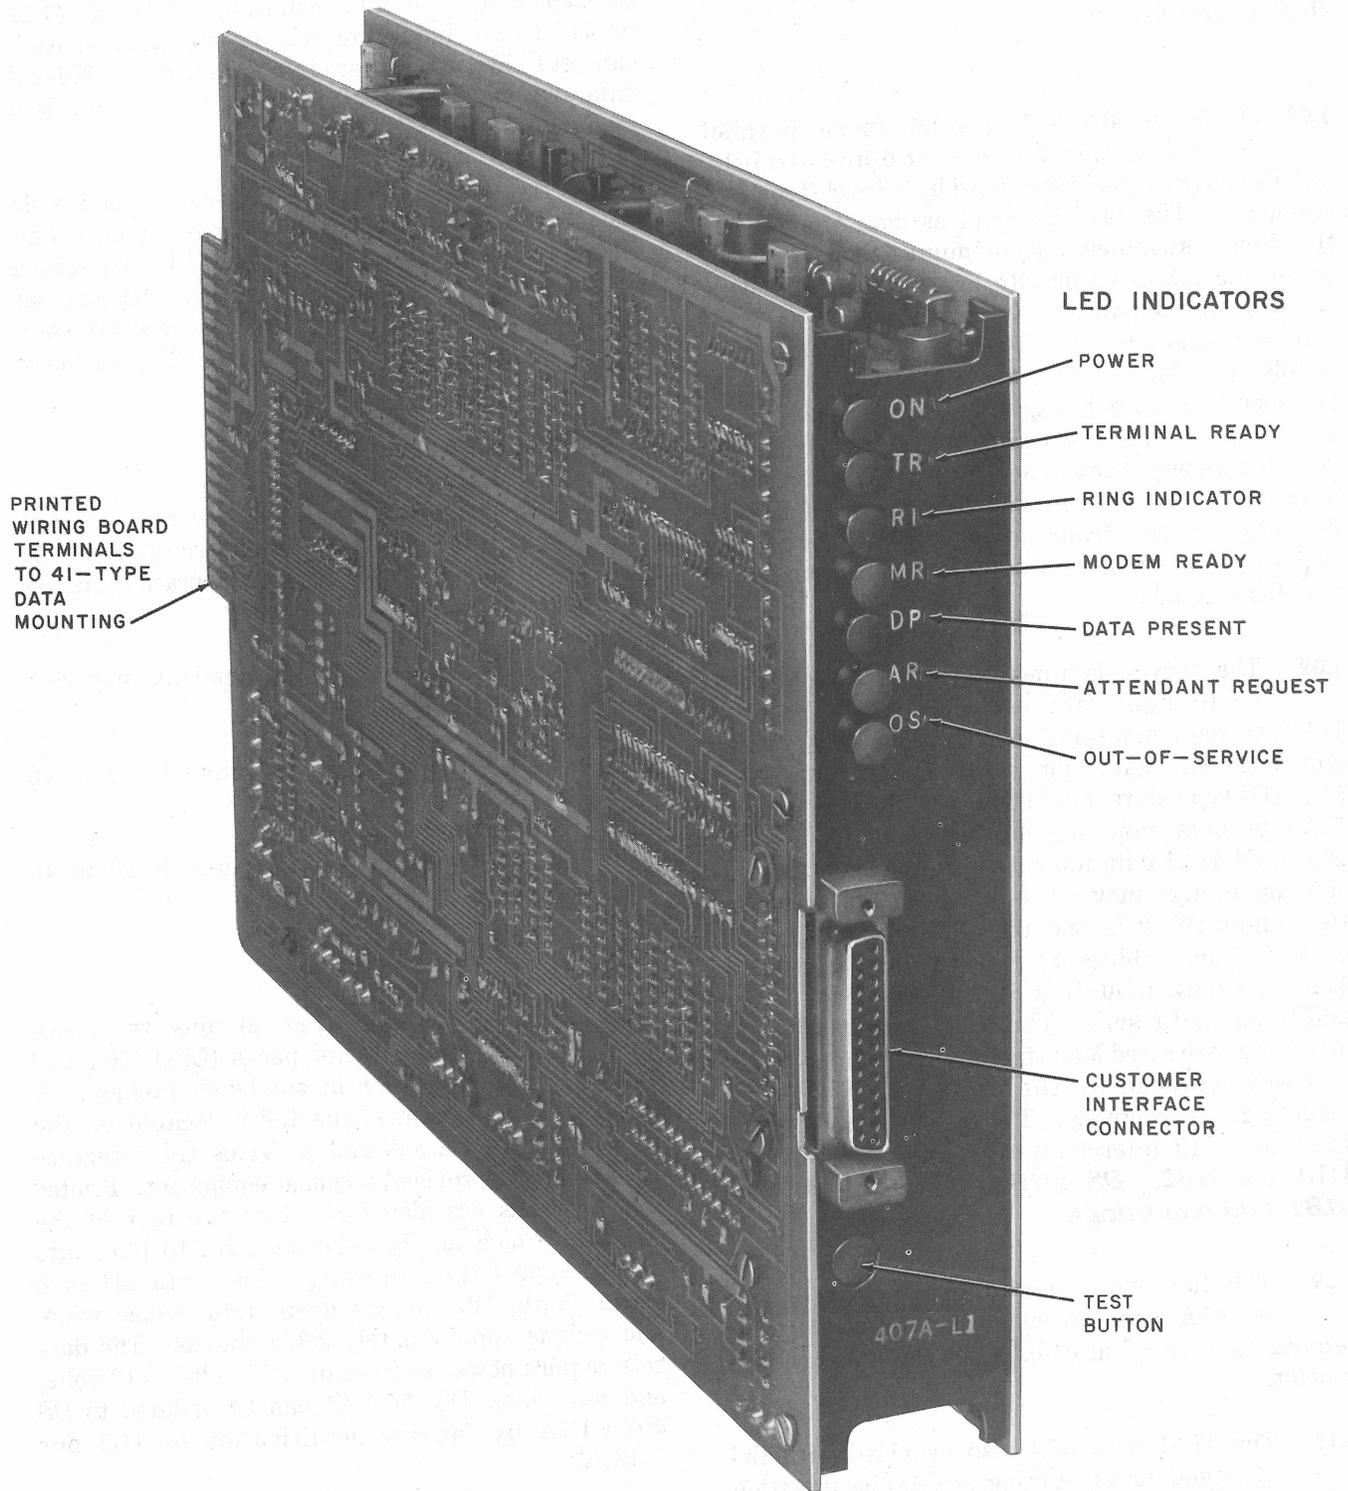

Fig. 2—Data Set 407A-L1 or -L1A
**1.07** Data set 407-type is a low-speed, parallel receiver that detects two-out-of-eight multifrequency signals generated by a Touch-Tone-type telephone. The data set receives data from either the 2-wire switched telecommunications network or an unconditioned private line facility. The data set provides a two-way voice channel as well as full-time remote control. The remote control feature enables the data set to receive Touch-Tone signals in the presence of outgoing voice or tone answer-back. The data set has the capability of generating a 2025-Hz answer-back tone. Status light emitting diodes (LEDs), as shown in Fig. 2 and 3, are provided on the front panel of DS 407-type to indicate the state of various functions and customer interface signals.
**2.02** Data set 407A-L1 (Fig. 2) consists of two printed wiring circuit packs (CPs) (JU1 and JU2) mounted together in sandwich fashion. A KS-19087-type 25-pin connector is located on the front of the data set and provides the interface with customer-provided terminal equipment. Printed CP terminals are also located on the rear of the data set which enables the data set to plug into the 41-type data mounting. The data set is 8 inches high, 12.1 inches deep, 1.45 inches wide, and weighs approximately 2-3/4 pounds. The data sets require power sources of +12 volts, -12 volts, and +5 volts. DS 407A-L1 can be updated to DS 407A-L1A by factory modification of JU1 per X-18107.
**2.03** Data set 407A-L1A (Fig. 2) consists of two printed wiring CPs (JU1B and JU2) similar to DS 407A-L1. Dimensionally, DS 407A-L1A is the same as DS 407A-L1, and the power source
**3.07** Seven status LEDs are provided on the front of data sets 407A-L1 and -L1A as shown in Fig. 2. The LED names and functions are defined as follows:
- The terminal ready (TR) LED indicates the status of the data terminal ready signal from the customer interface.
- The ring indicator (RI) LED indicates that ringing is being applied to the data set.
- The modem ready (MR) LED indicates the status of data set ready signal to the customer interface. This LED comes ON 3 seconds after ringing is tripped, if the station is in the Data mode and TR is ON. Once it comes ON, it stays ON until termination of the call, whether the line is in the Talk or the Data mode.
- The data present (DP) LED indicates the status of the data present signal to the customer interface. This signal (DP LED ON) indicates that the data set is receiving data.
- The attendant request (AR) LED indicates the status of attendant request signal from the customer interface.